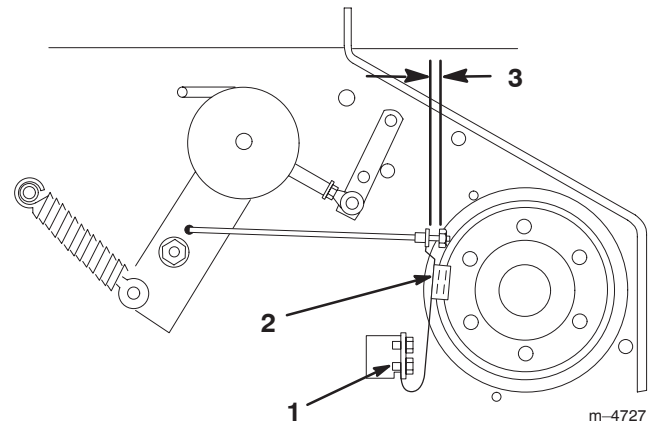

Figure 61
3. If necessary, adjust the spring mounting bolts so that the blade brake pad rubs against the pulley edges (Fig. 61).
4. Adjust the nut at the end of the blade brake rod until there is 1/8–3/16 inch (3–5 mm) between the nut and the spacer (Fig. 61).